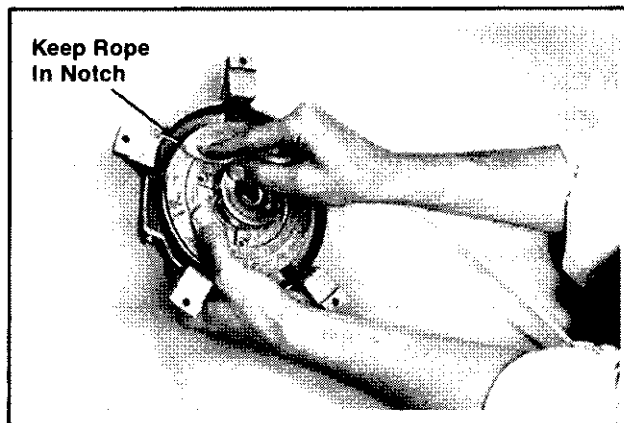

Figure 7-21. Tensioning Spring.
14. Rotate the pulley counterclockwise (when viewed from the pawl side of pulley) until the spring is tight. (Approx. 4 full turns of pulley.) Make sure the fully extended rope is held in the notch in pulley to prevent interference with the housing leg reinforcements. Refer to Figure 7-21.